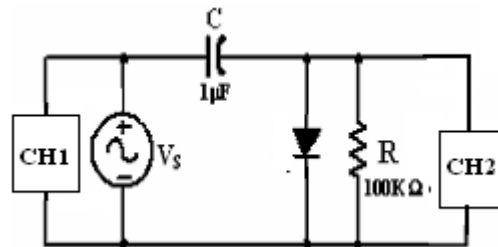

Figure 4
- 1- Construct the circuit shown in Figure 4.